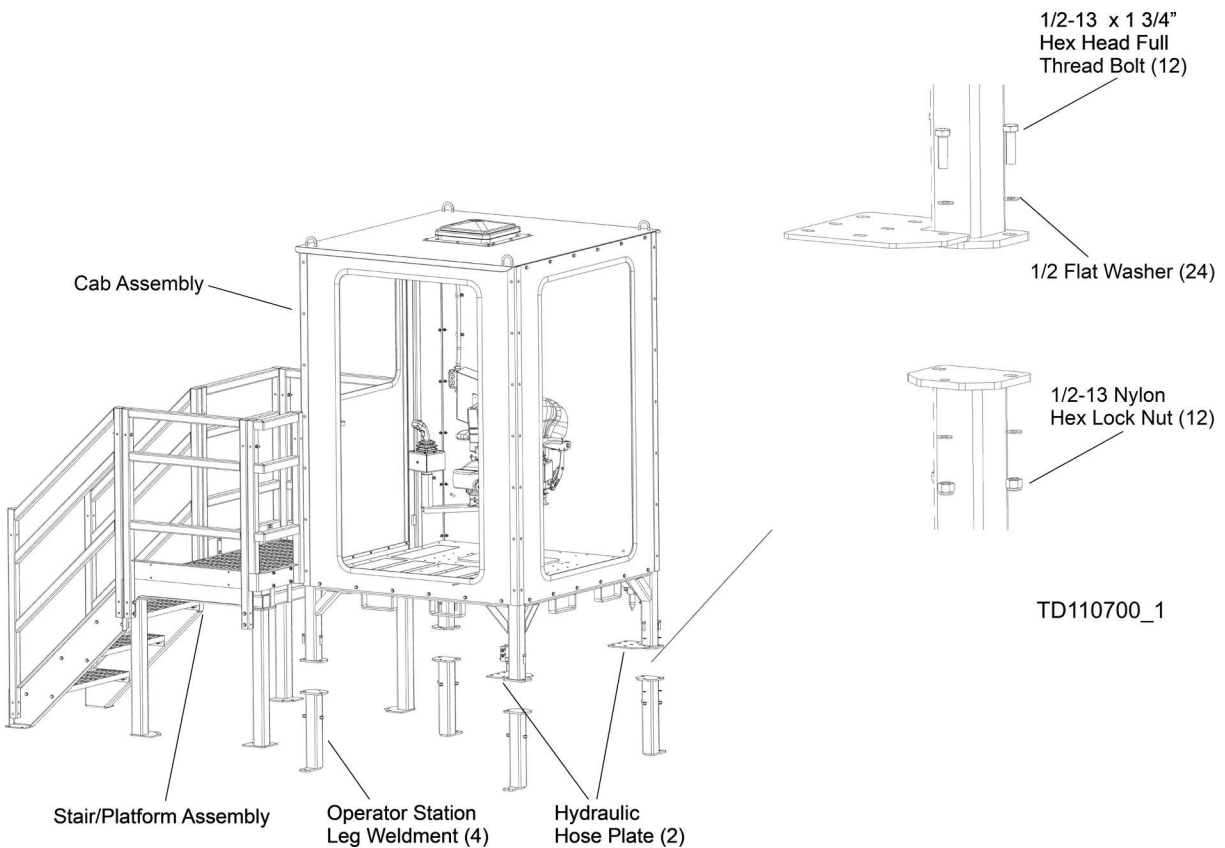

FIG. 3-1
2. Install the 4 leg weldments to the operator station using the hardware. (See FIG. 3-1.)
4. Install the stair/platform assembly to the station deck using the hardware. (See FIG. 3-1.)